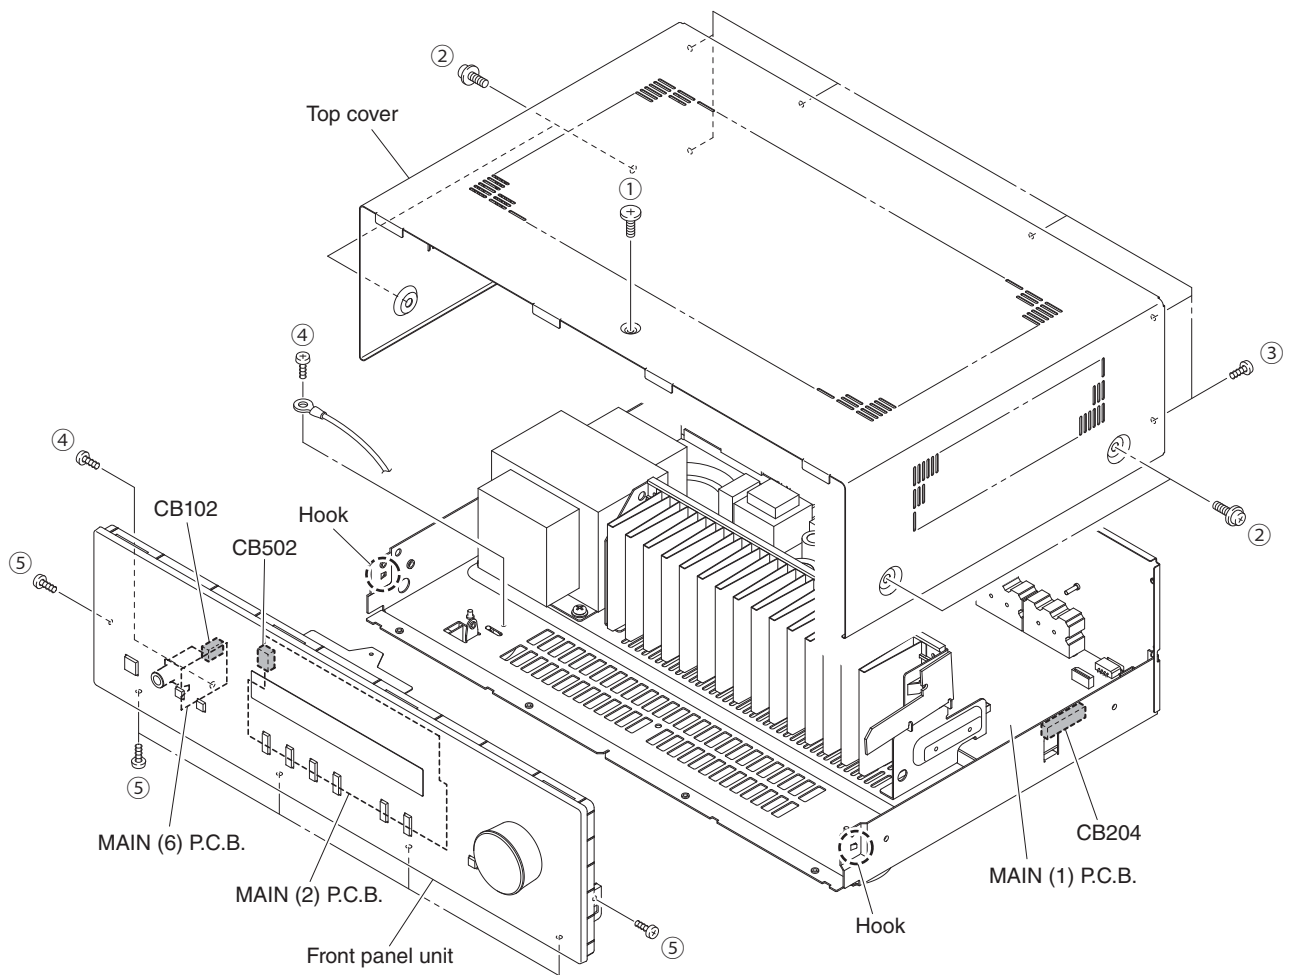

Fig. 1
- Remove screw (①), 4 screws (②) and 6 screws (③). (Fig. 1)
- Remove the top cover. (Fig. 1)
- Remove screw (④) and 6 screws (⑤). (Fig. 1)
- Remove screw (⑥) and then remove W501. (Fig. 1)
- Remove CB102, CB204 and CB502. (Fig. 1)
- Release 2 hooks and then remove the front panel unit. (Fig. 1)